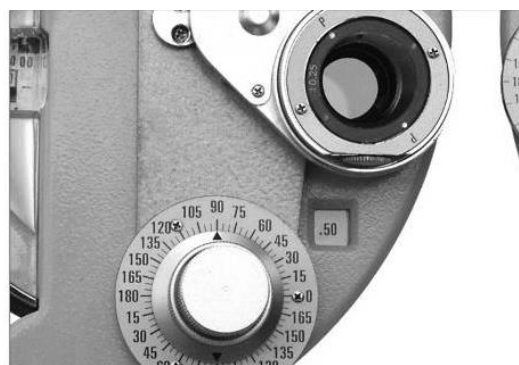

Fig.33
- (1) Set cross cylindrical lens ②① in front of Testee's right eye and, turning rotation knob ①⑨ axially, to align it with axial direction of cylindrical lens (see Fig.33).